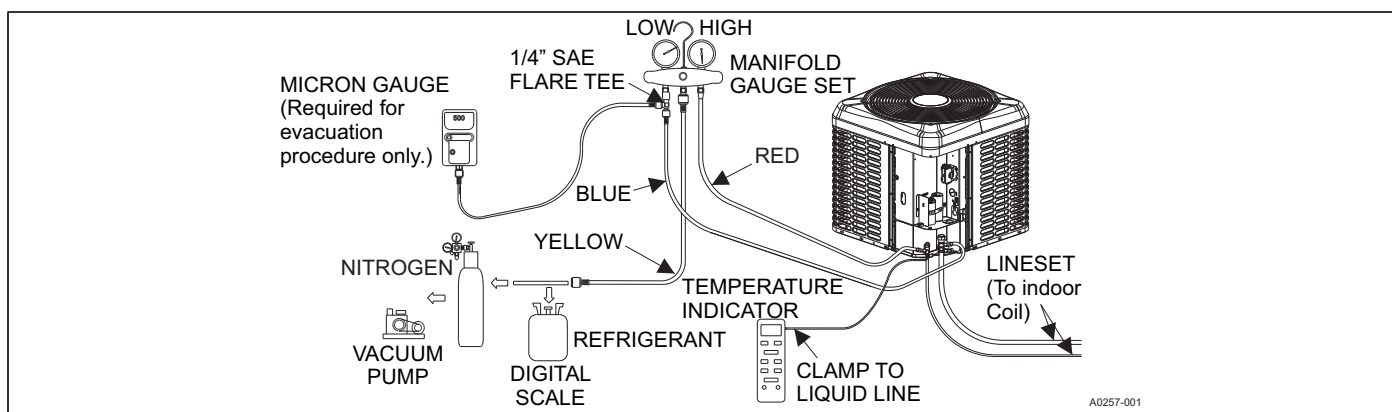

FIGURE 10: System Charging Connections
- a. If possible, install the temperature bulb on a horizontal run of the vapor line. Ensure that the bulb is installed at a 10 o'clock or 2 o'clock position. See Figure 10.